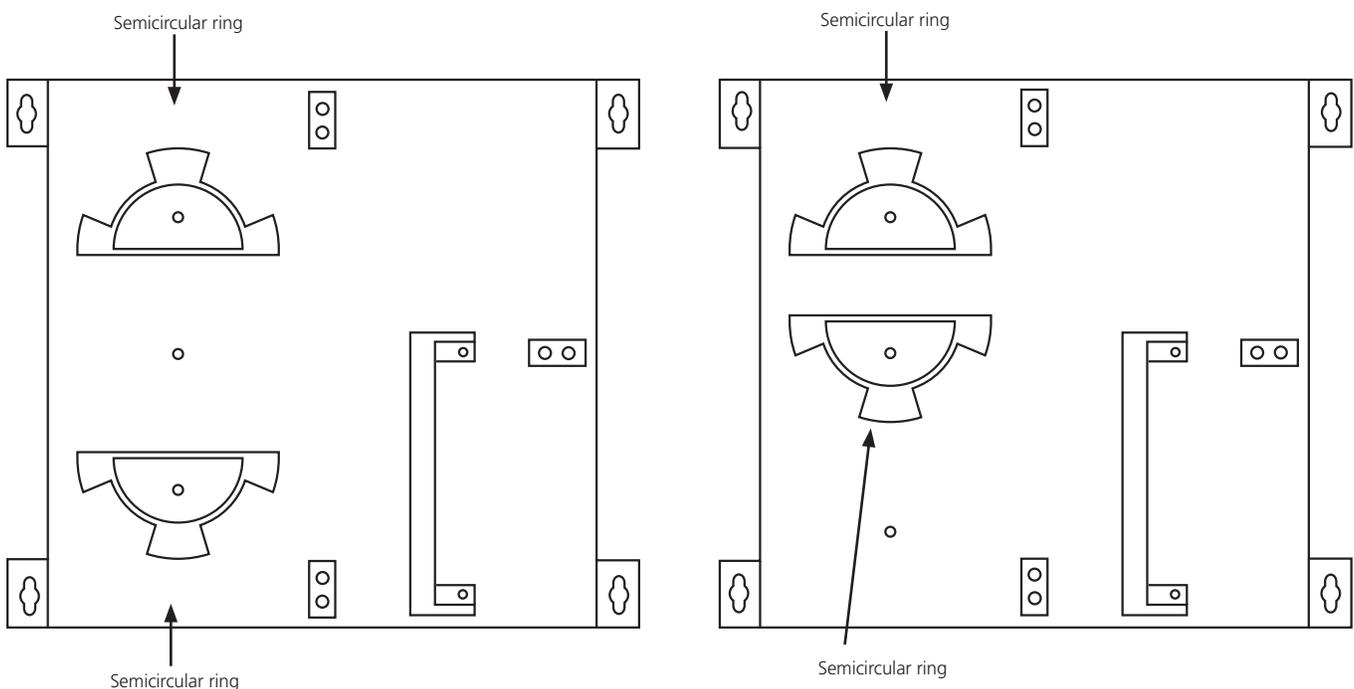

Figure 4. Positioning the semicircle rings.
9. The left side of the enclosure accommodates cable management and fiber splicing. Two semi-circular rings (already installed) help manage the loose distribution fiber strands. A two-port six-strand fiber splice tray is already installed. Both the semi-circular rings and splice tray can be reconfigured to best suit your application. See the examples in Figures 4 and 5.